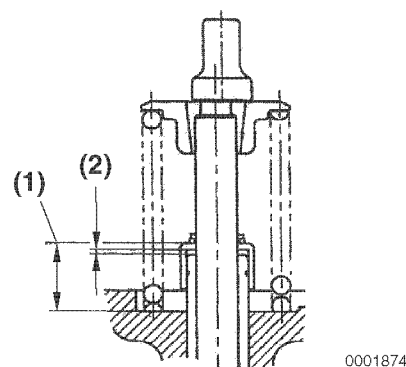

Figure 6-19
2. Measure the distance (Figure 6-19, (1)) from the machined spring seat surface of the cylinder head to the top of the valve stem seal to ensure there is proper clearance (Figure 6-19, (2)) between the guide and the seal. See *Intake / Exhaust Valves, Guides and Seals* on page 6-6 for Valve Seal Installed Height Specifications.